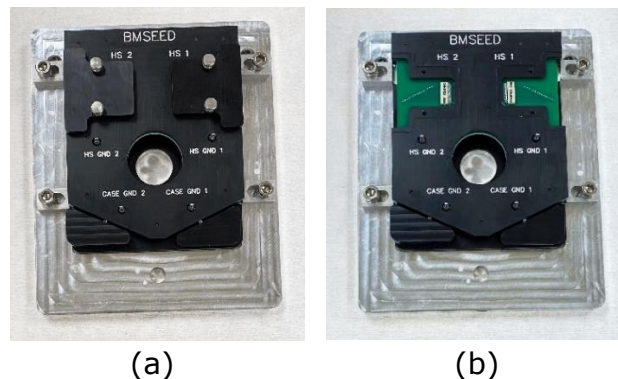

Fig. 6: Headstage covers **(a)** screwed into the Board and **(b)** unscrewed and removed from the Board.
- 2) Unscrew the protective shield of each headstage from the top of the Interface Board (two screws for each cover; **Fig. 6**).